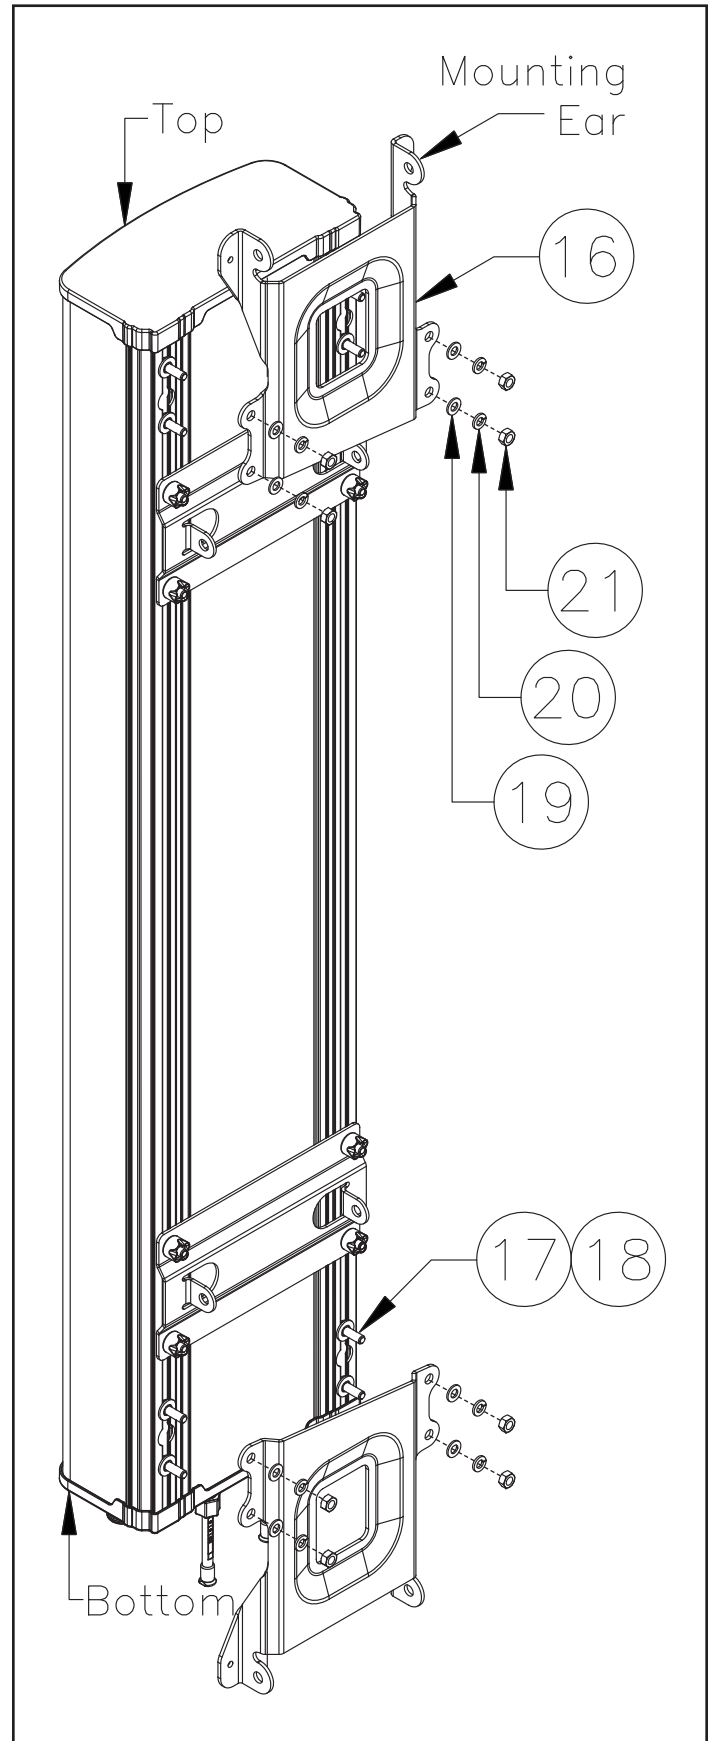

Figure 9. Attaching Mounting Plates to Type 2 Antennas (see www.andrew.com for the latest list of models).
2. Attach the mounting plates to the back of the antenna using the M8 hardware provided (Figure 9).